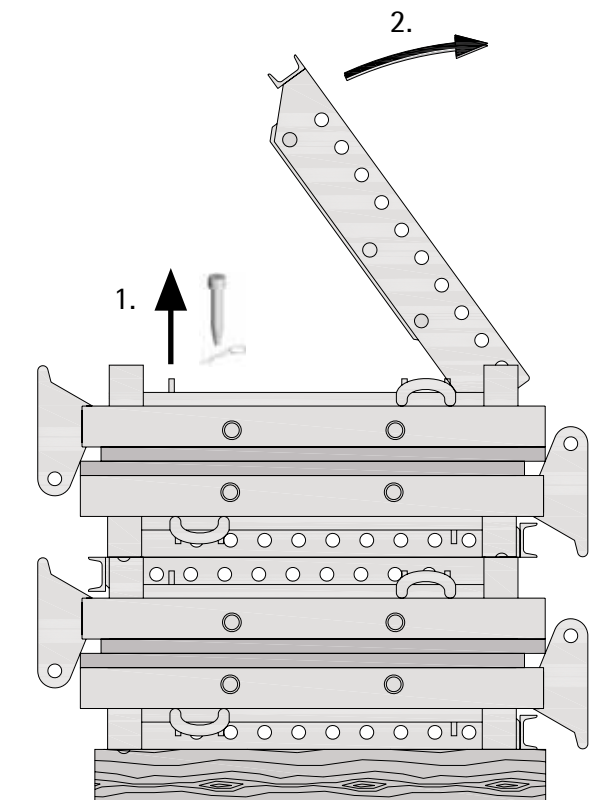

Fig. 6
1. Pull the Grip bolt (safety bolt) and retaining pin on the lying element (Fig. 6).
2. Fold the perforated strip upward by 90° (Fig. 6).